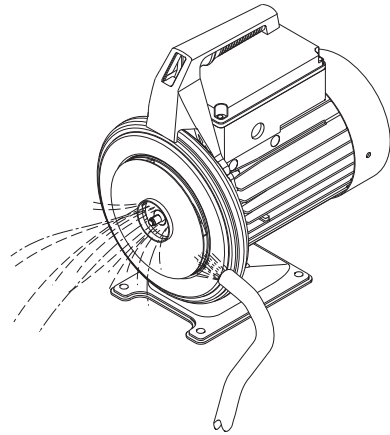

Fig. 7 Cleaning the impeller
3. Remove screw (pos. 93) and clamp (pos. 92) holding pump sleeve (pos. 16).
4. Push pump sleeve (pos. 16) free of the motor stool with a screwdriver and take it off.
5. Pull ejector (pos. 14) out of the pump sleeve.
7. Check if impeller (pos. 49) is dirty. If that is the case, clean the impeller (in place) using a soft brush or a water jet. See fig. 7.